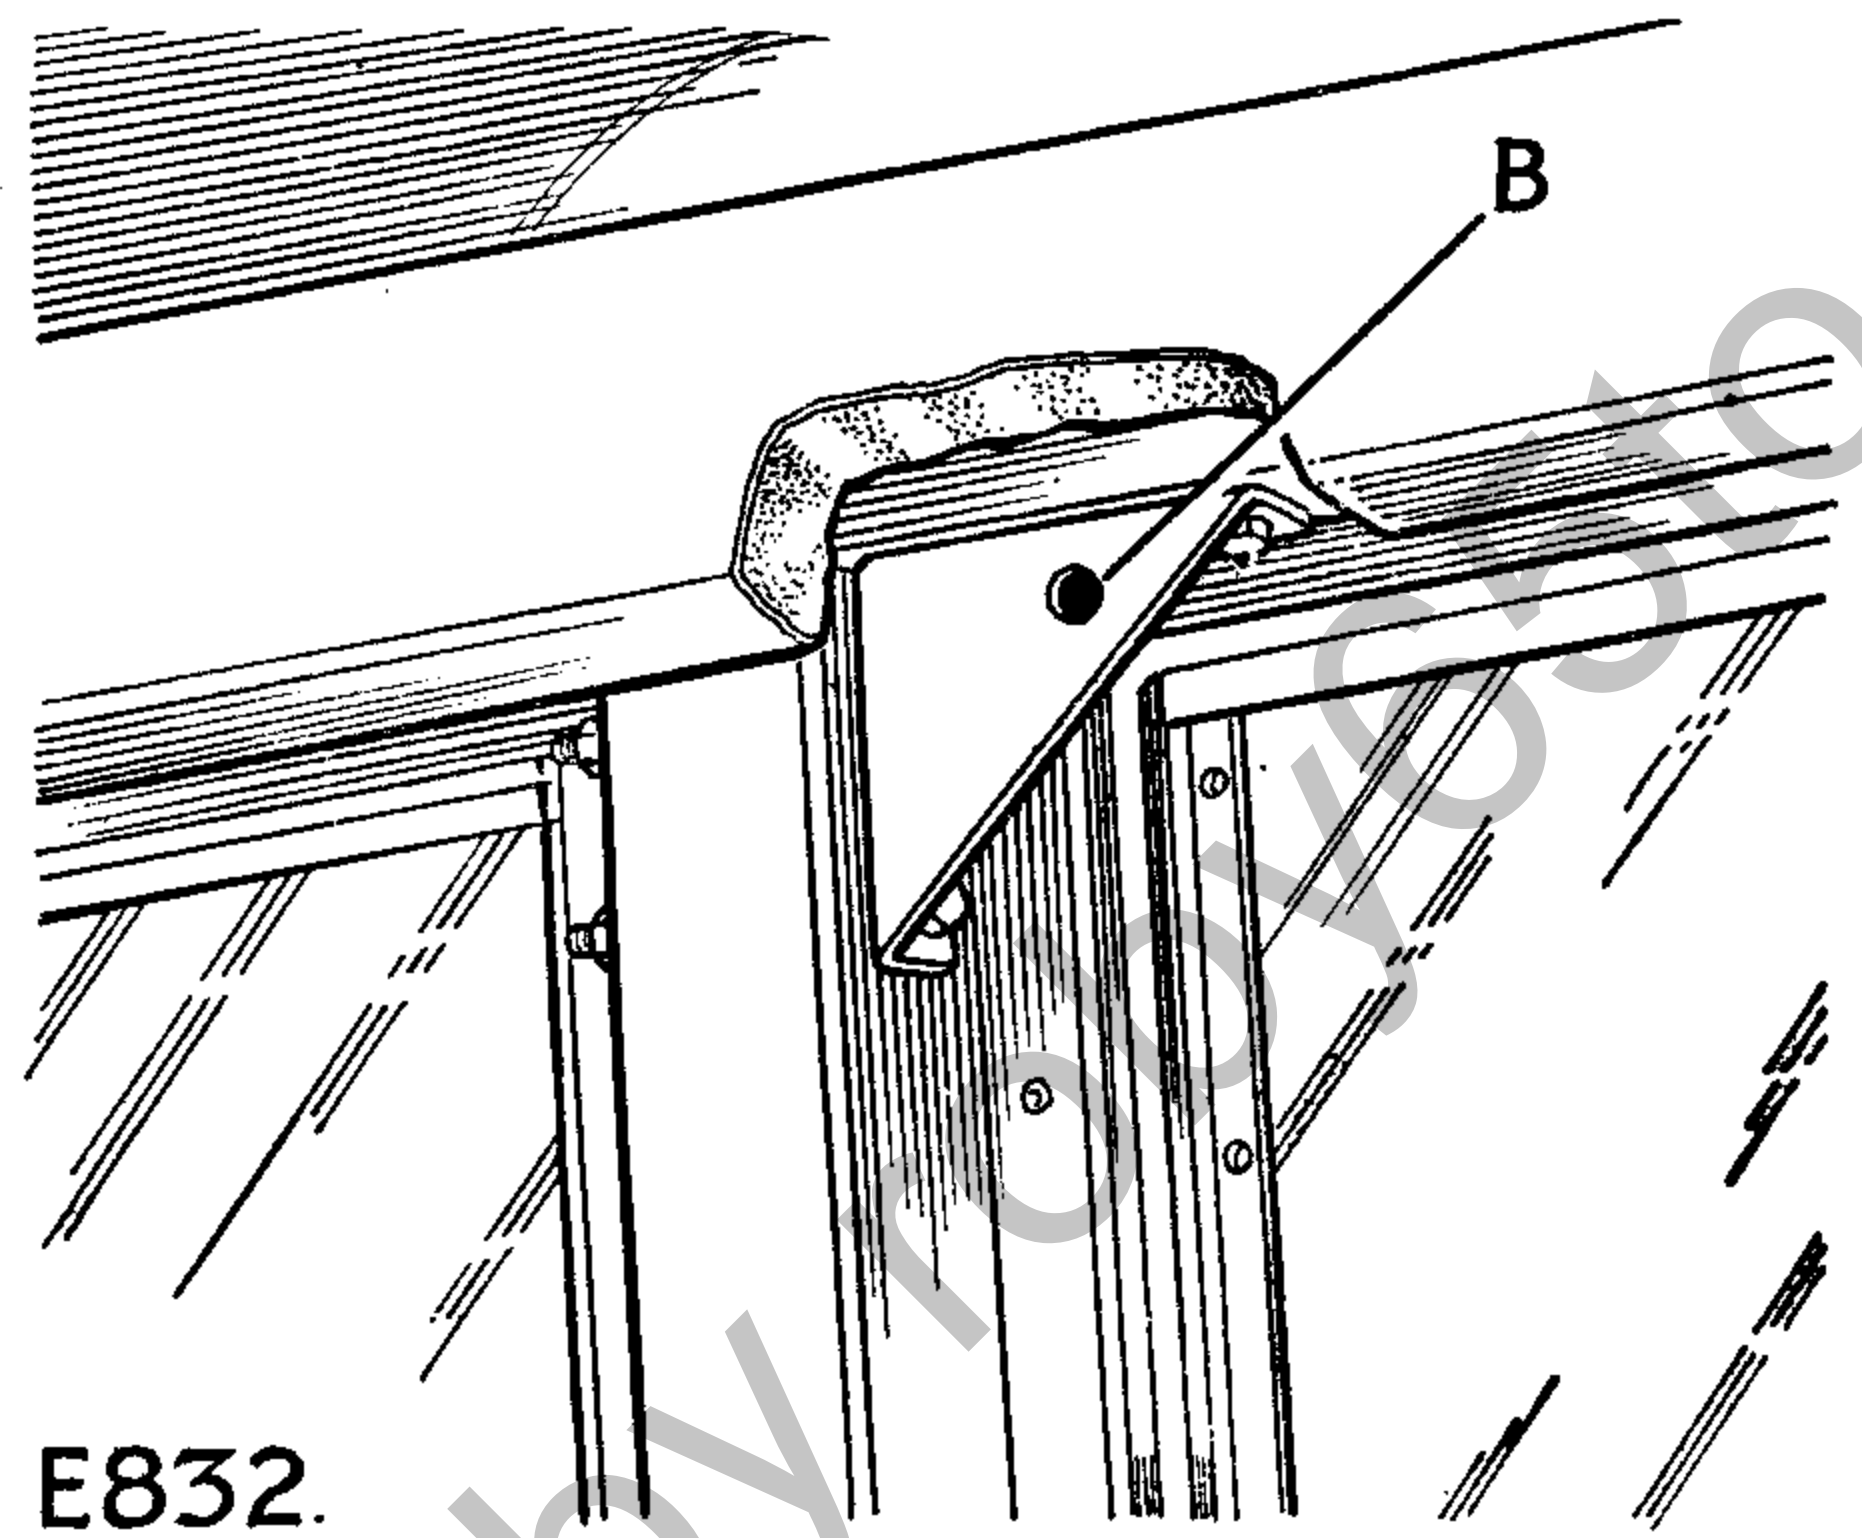

Fig. 15.
10. Secure the shoulder bracket R.H. or L.H. as required to the top corner of B.C. post, with the bracket web facing inboard, using bolt ($\frac{5}{16}$ in. UNF x $\frac{1}{2}$ in. long), spring washer and nut ($\frac{5}{16}$ in. UNF) as shown in Fig. 15.